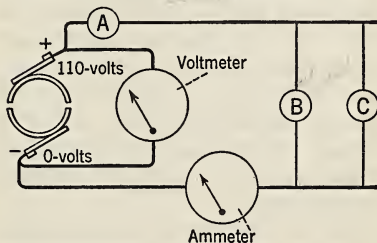

FIG. 686. Series-parallel connection.
13. A voltmeter connected across the terminals of a dynamo shows an E.M.F. of 110 volts. Three lamps, A, B, and C, each having a resistance of 110 ohms, are connected as shown in Fig. 686. When the lamp C is turned off, what current will flow through the ammeter? What current will flow when the lamp C is turned on? Explain why the lamp A will glow more brightly than either one of the others.